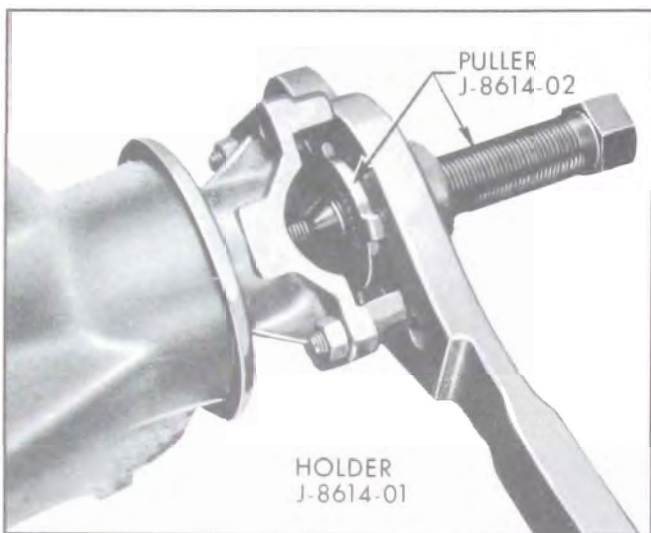

Figure 6-16—Removing Pinion Flange
1. Remove pinion assembly and press off rear pinion bearing using Remover J-8612 and Holder J-6407. See Figure 6-16.